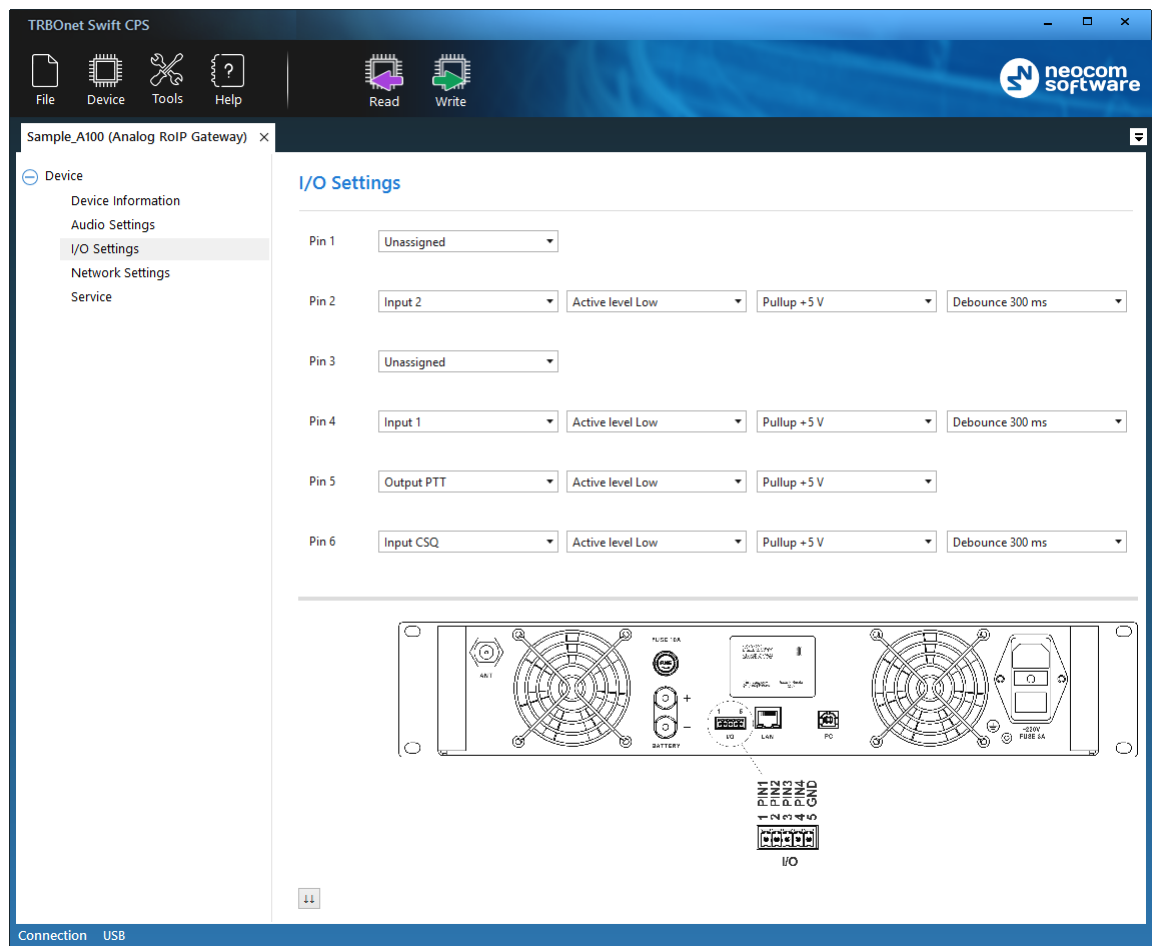

Figure 13: Configuring I/O pins connected to the service cable
- For I/O pins connected to the service cable, specify the function (Input/Output), the active level, and other I/O pin settings (Figure 13).